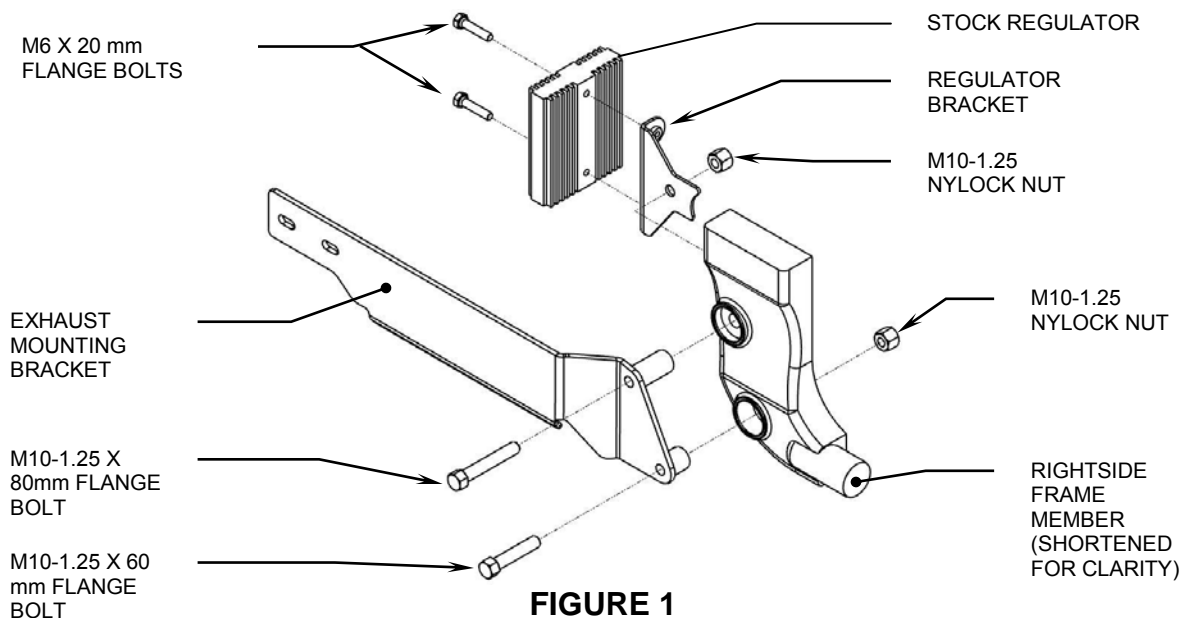

FIGURE 1
2. Install exhaust mounting bracket into frame where stock mount was removed by inserting the supplied M10 x 80 mm bolt into the top mounting hole and the shorter M10 x 60 mm into the lower and thru the frame, see Figure 1. Start the supplied M10 Nylock nut on to lower bolt but do not tighten.
3. Take the supplied voltage regulator relocater mounting bracket and slide over the upper M10 exhaust mounting bolt installed in Step 2 on the inside of the frame, see Figure 1. Start the supplied M10 Nylock nut onto bolt and snug. Make sure regulator bracket is in a vertical position and bolt the voltage regulator to mounting bracket with the supplied M6 flange bolts and tighten.